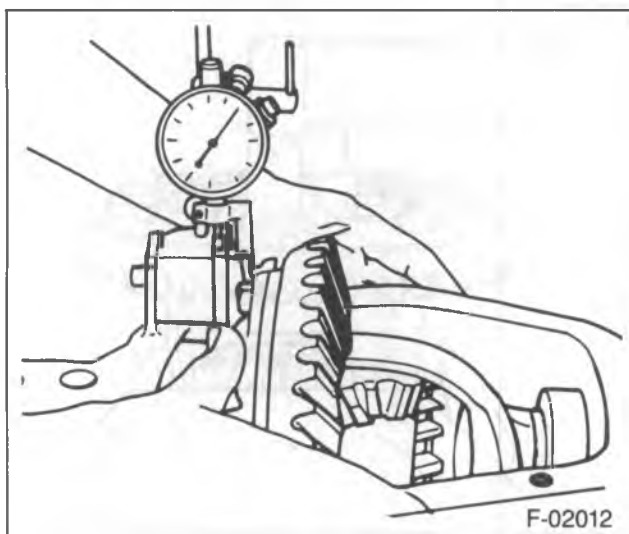

Figure 21—Determining Differential Shim Pack
2. Mount a dial indicator having a minimum travel of 0.200-inch with a magnetic base on the ring gear bolt side of the housing (figure 21).